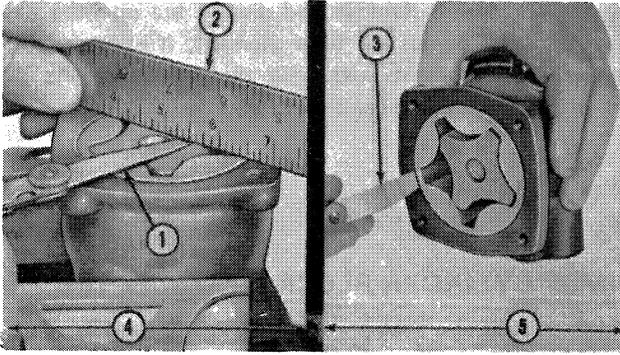

Figure 35
4. With the rotor and shaft assembly installed in the pump body, place a straight edge over the rotor and shaft assembly and the pump body. Measure the clearance between the straight edge and the inner rotor and shaft assembly and between the straight edge and the outer rotor, Figure 35. If the measurement is not within specifications, page 75, install a new rotor assembly.